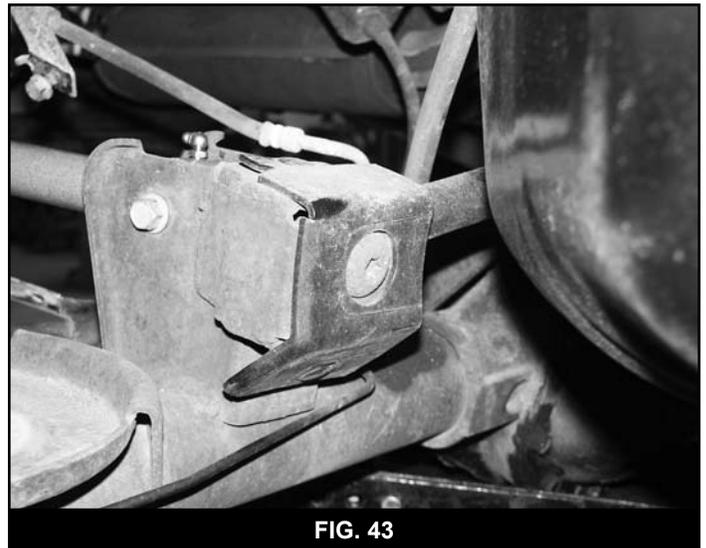

FIG. 43
27. Remove the plastic cover from the track bar mount on the axle (Fig 43). Discard cover.